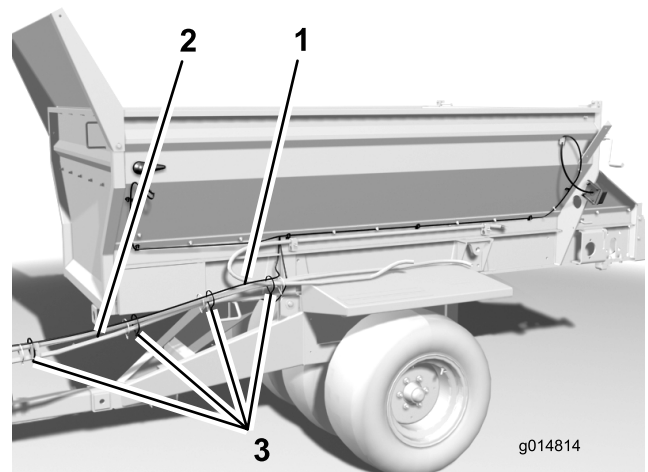

Figure 8
13. Secure the harness to hydraulic hoses going to the tractor with cable ties (Figure 8).